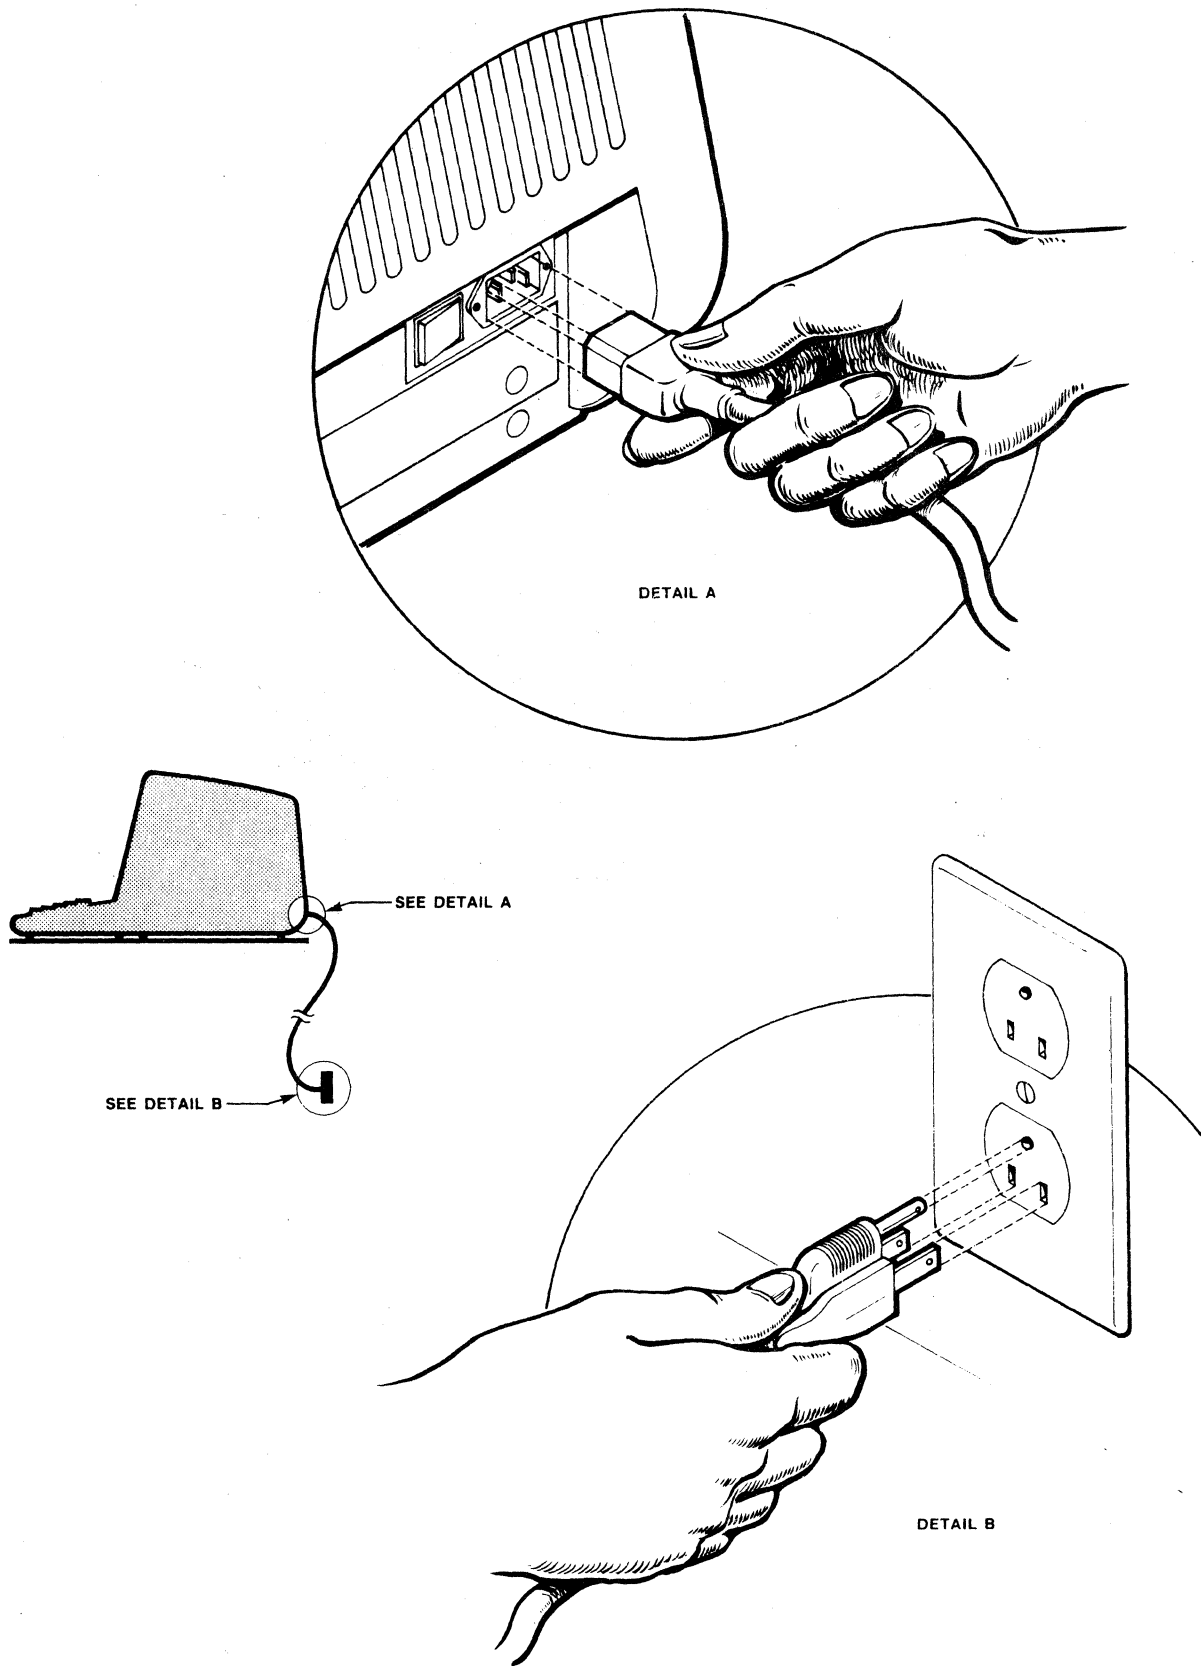

Figure 2-5. Power Cord Connection
The TS-1 Terminal has only two cables to connect, the coiled cable that interfaces the keyboard to the main unit and the power cable that is connected to either a 115 Vac or 220 Vac outlet on the rear panel of the main unit (see Figure 2-5).
3. Verify that the wall outlet (Figure 2-5) is of the correct voltage rating (115 Vac is standard in the U.S.) and that the power switch on the terminal is OFF. Connect the power cable to the wall receptacle.